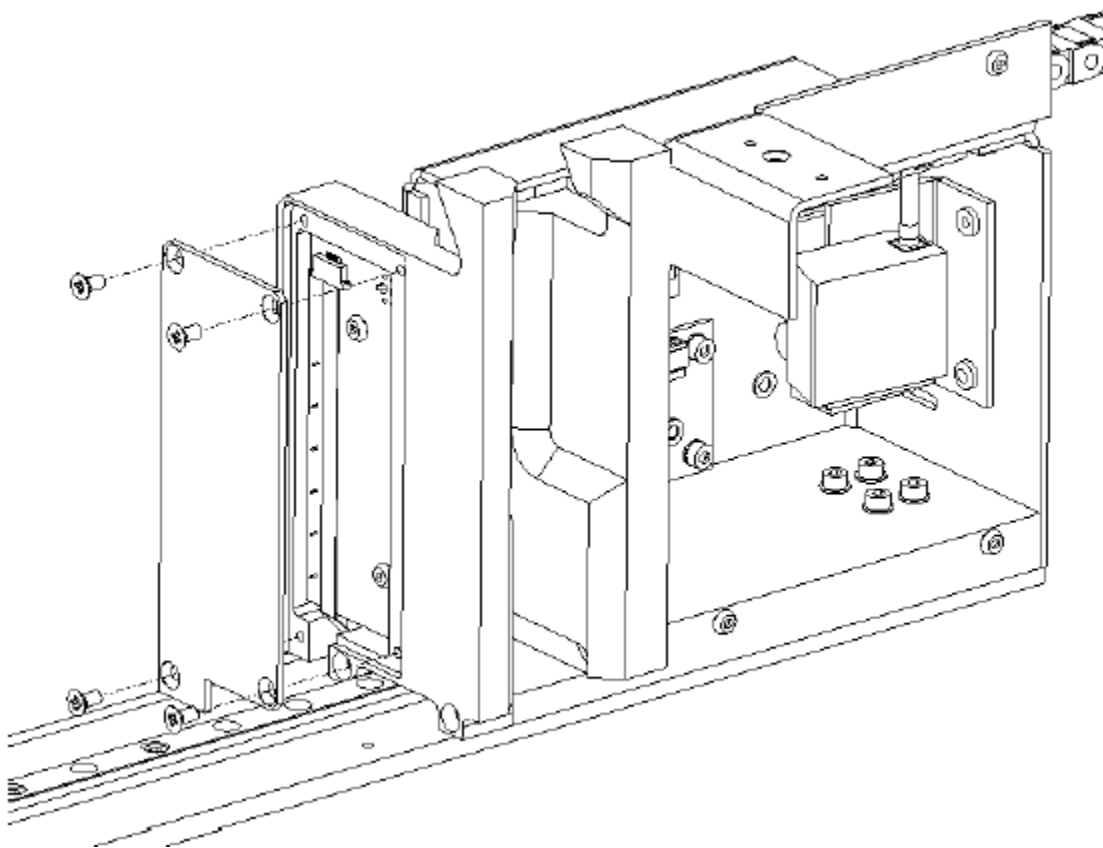

Figure V-6: Removing the Photodiode Cover
The LED assembly is shown in Figure V-6. When removing the LED, unclip the retaining ring. Use fixture P24FIX017 to clamp the clip to the retaining ring when rebuilding the assembly.
1. Remove the Photodiode Cover from the Photodiode Assembly by removing the four M3x6 Pozi Flat Head Screws (Figure V-6).